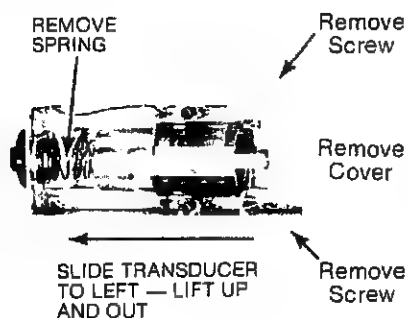

Fig. 2-5. — Transducer Removal
1. Remove 2 each phillips head screws from either side of transducer assembly cover and remove cover (Fig. 2-5).
2. Remove transducer actuating spring (item 103) by compressing and lifting out of arm.